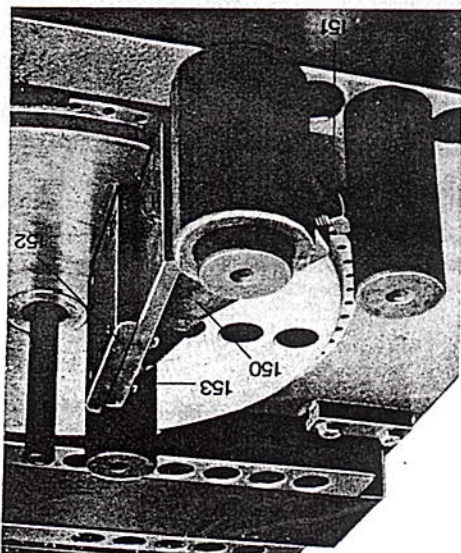

Fig. 11: Overarm bracket for light bars
- Fig. 11 Assembly Drawing: Food Roller - Optional Equipment
If steel bars of diameters below $\frac{3}{4}$ " are to bent, the overarm bracket for light bars (150), Fig. 11, placed over the 2" diameter pin, can be used instead of an overarm roll. A second diameter pin secures the overarm bracket for light bars to prevent it from shifting. Setcrew (151) locates the device in the proper position.